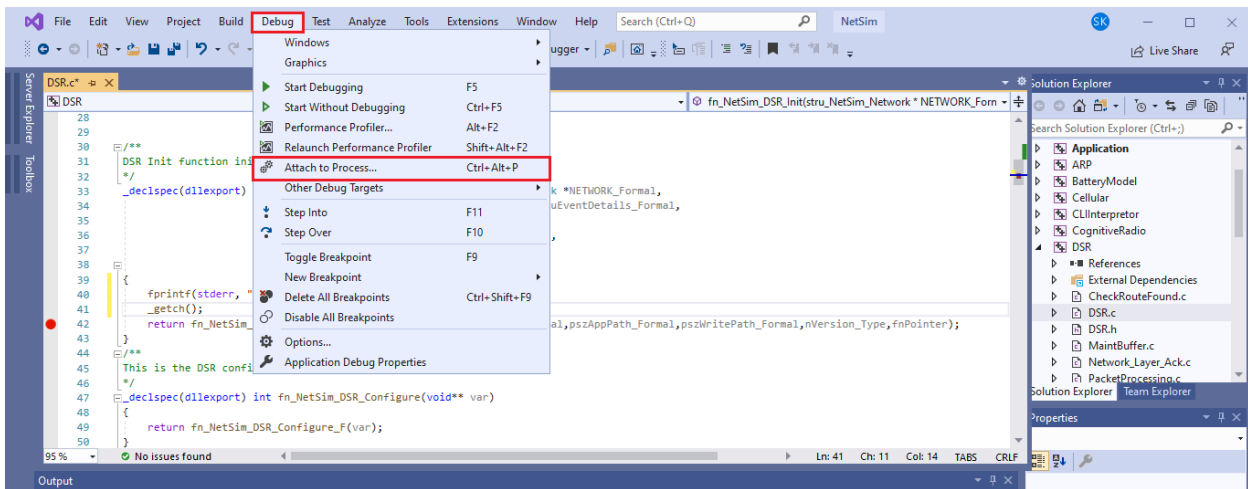

Figure 9-16: Debug > Attach to Process in Visual studio
Step 3: In NetSim, create a network scenario where the protocol is being used and start the simulation. In the console window user would get a warning message shown in the below screenshot Figure 9-16 and the simulation will pause for user input (because of `_getch()` added in the init function)